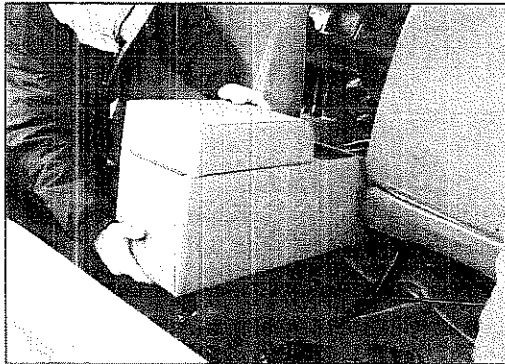

Figure 1
1. Position the Console in the desired position between the Driver and Passenger seats as shown in Figure 1.